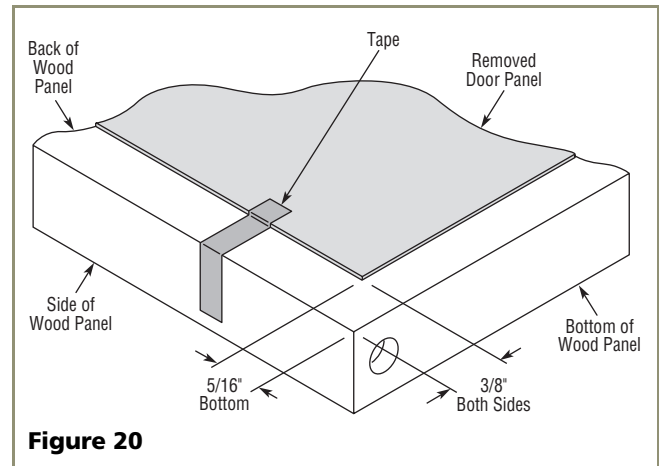

Figure 20
2. Place and tape the existing door panel on the back of the overlay panel (see **Figure 20**) and drill holes through both panels according to **Figure 21**. Remove tape adjoining the panels and enlarge the six holes in the overlay panel using a 0.201" (#7) drill.